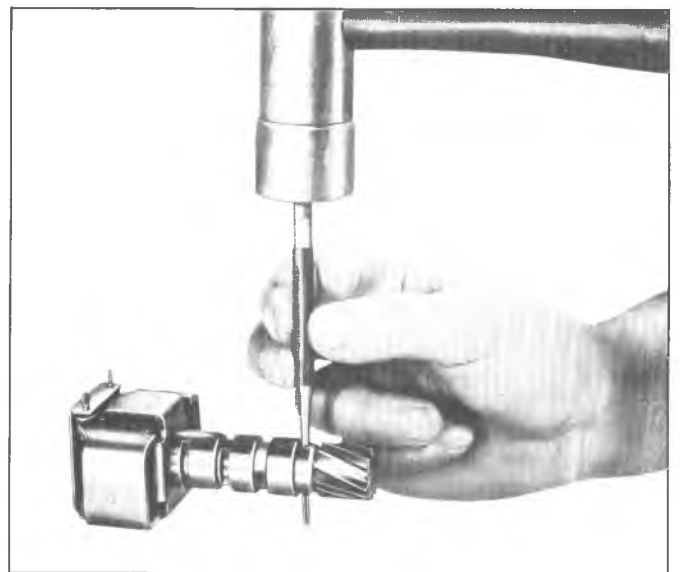

Fig. 49T--Removing Governor Gear Retaining Pin
1. Drive out governor gear retaining split pin using small punch (fig. 49T).